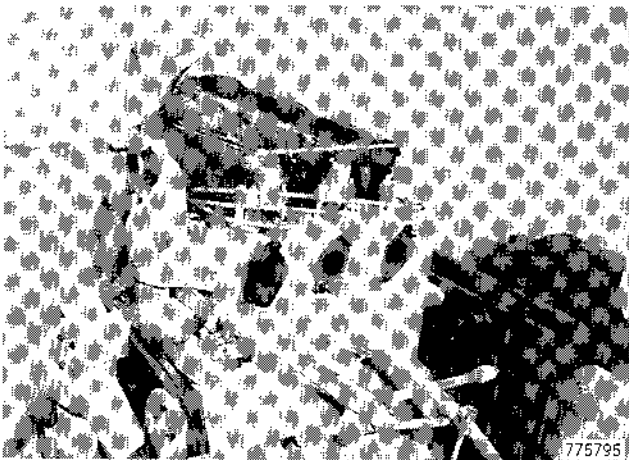

Figure 170
12. Clean old gasket material from valve cover and install a new gasket. Install valve cover, Figure 170.